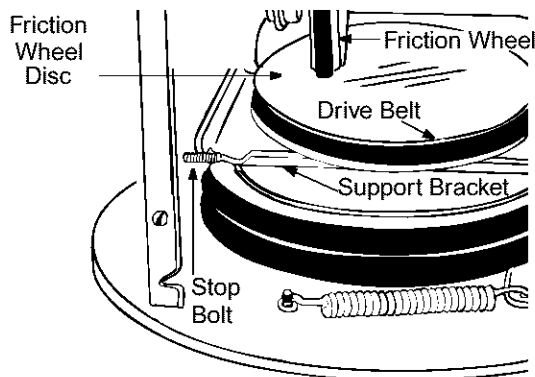

Figure 15
- Using a wrench, loosen the nut on the stop bolt until the support bracket rests on the auger pulley. See Figure 15.
- Slip belt between friction wheel and friction wheel disc. See Figure 15. Remove and replace belt. Reassemble in reverse order.
**NOTE:** The support bracket must rest on the stop bolt after the new belt has been assembled. See Figure 15.